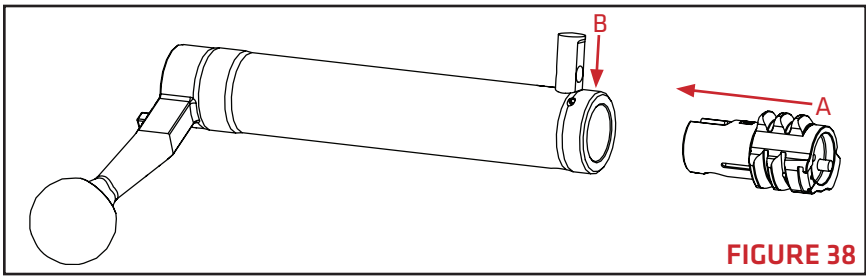

FIGURE 38
2. Insert the bolt into the bolt tube (**FIGURE 38-A**) and retain it by pushing the bolt pin into the bolt tube (**FIGURE 38-B**).